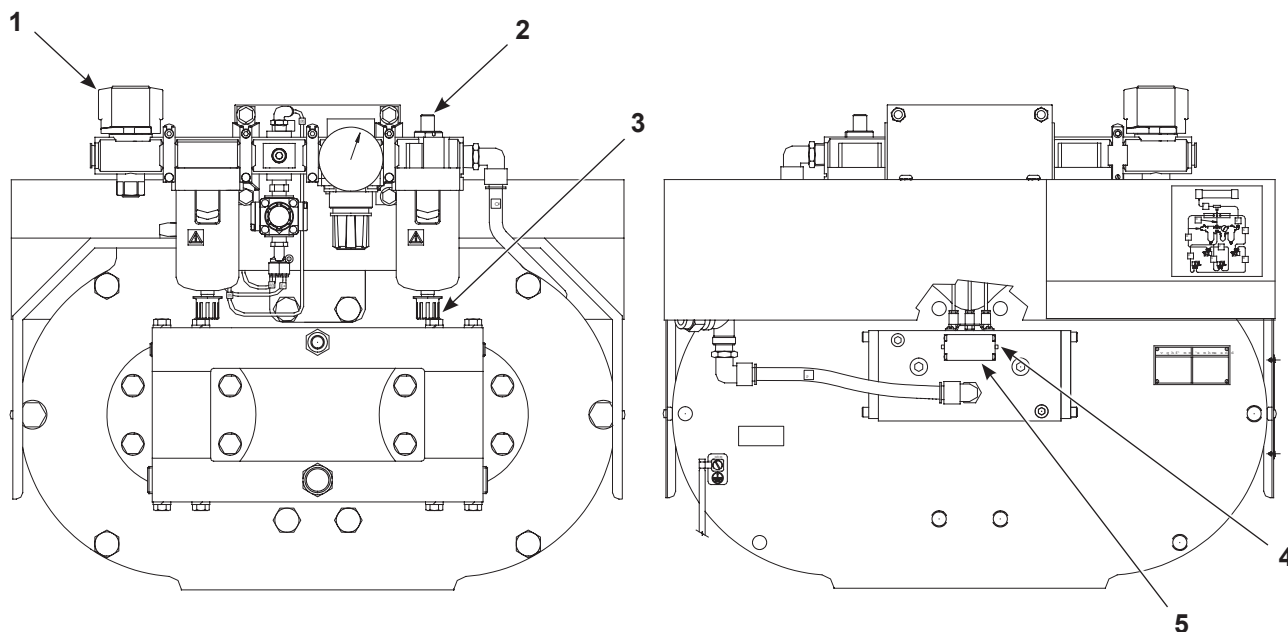

Figure 4-1 Pump Adjustments - End View
See Figure 4-1 when making adjustments to the pump. The first-time startup of the pump requires a flush to clean out any residual dirt, grease, and machining chips left from manufacturing and installation.
1. See Figure 4-1. Place a siphon rod into the coating material. If a pressurized system is used, pressurize the feed line.
2. Open the air shut-off valve (1) and adjust the air regulator (5) until the pump begins to stroke slowly.